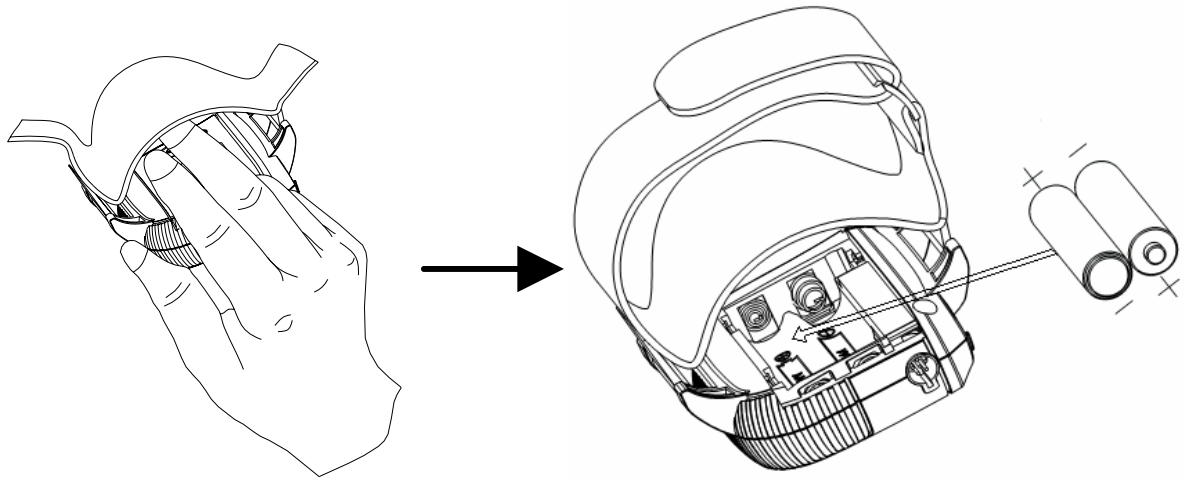

Figure 4 Battery Installation
1. Lift up the cloth covered on the battery cover. Then, use your index finger and middle finger to press against the battery cover. Meanwhile, slide it towards the side with SpO₂ probe (as shown in Figure 4).
2. Refer to Figure 4, insert two AAA size batteries into the battery compartment properly in the right direction.